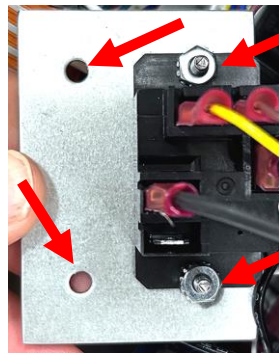

Figure 26
20. On gas fryers, using the supplied plate, attach the relay to the plate. Attach to the control box using the existing holes as shown (see Figure 26 & 26A).